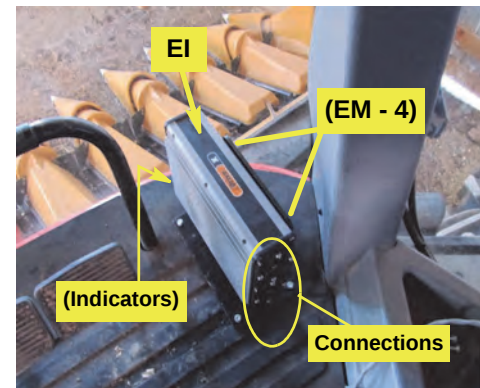

Figure 1b: ECU installed
- b. Using hardware **EM** (not visible) attach the ECU **EI** to bracket **EJ**. Have the wire connections toward the rear and the power and communications indicators at the bottom (Figure 1b).